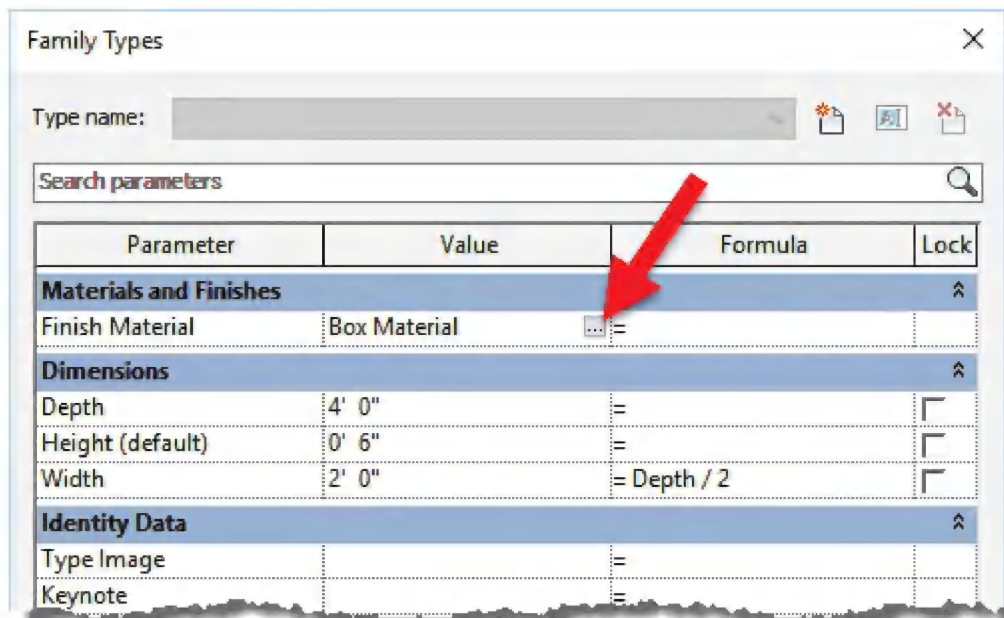

FIGURE 15-4.17 Setting material for new parameter
33. In the *Family Types* dialog, change the “value” for **Finish Material** to **Box Material**. (See Figure 15-4.17.)